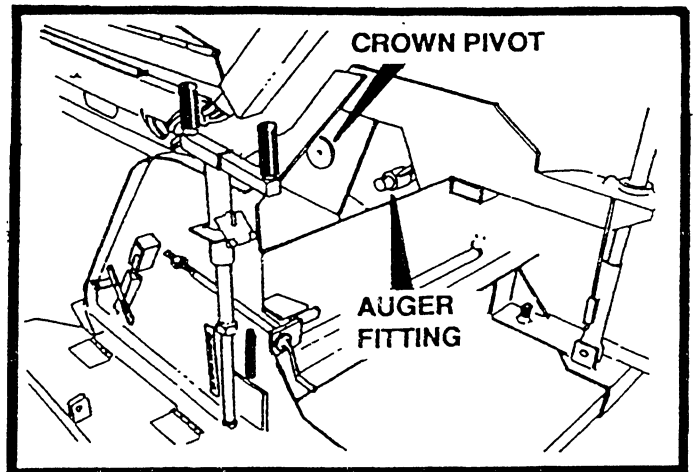

FIGURE 34
5. There are five grease fittings that should be greased daily with a good grade of multipurpose grease. Two fittings are on the outside end of each auger and two on the conveyor pivot just ahead of the auger grease fitting. See figure 34.